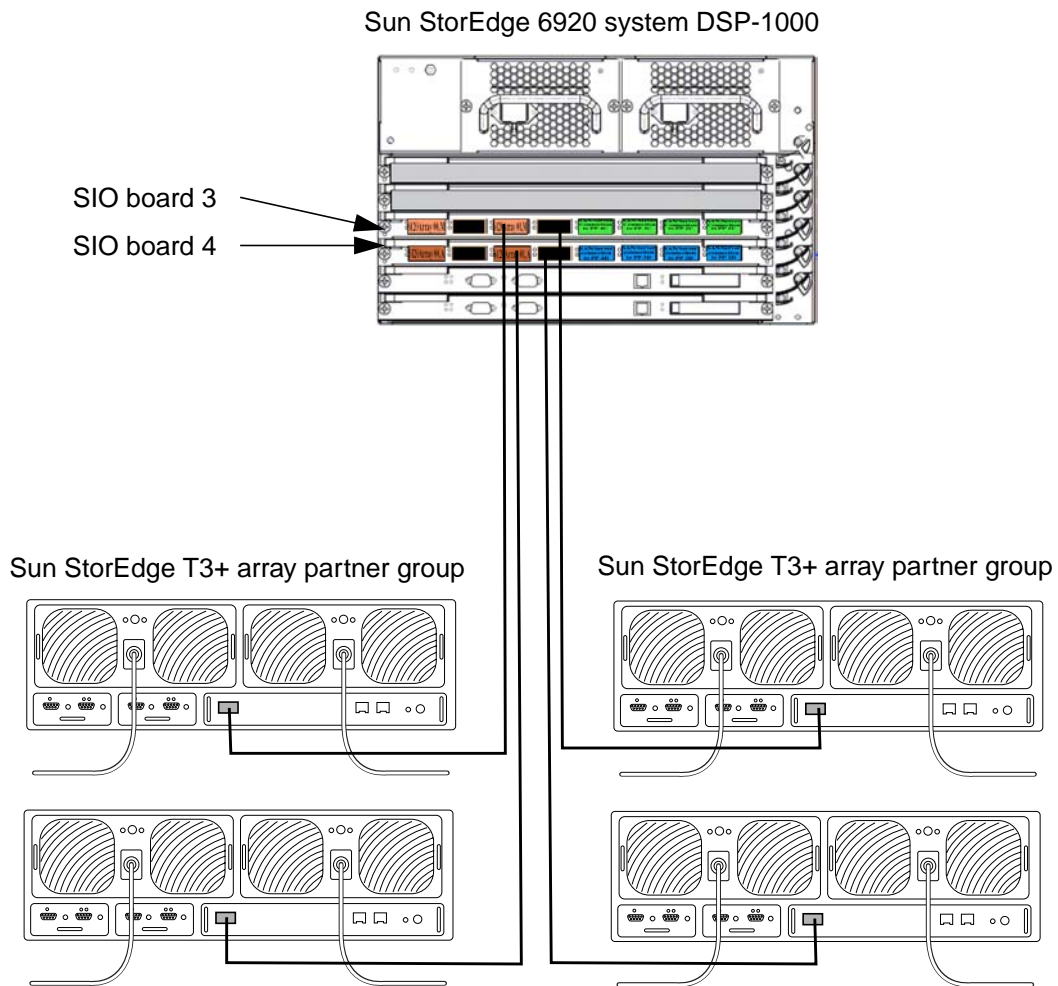

FIGURE 7 Cable Connections Between the DSP-1000 and T3+ Array Partner Groups in a Sun StorEdge 6920 Base Cabinet 0
2. Connect the LC Fibre Channel connector end of a cable from the cable set 537-1035-01 (four cables) to the Sun StorEdge T3+ arrays and the SC Fibre Channel connector end to the DSP-1000, as shown in FIGURE 7.
- a. A Sun StorEdge T3+ array to the LC end of cable labeled “DSP to Array-02 (M)”.
- c. Another Sun StorEdge T3+ array to the LC end of the cable labeled “DSP to Array-03 (M)”.
- e. The SC end of the cable labeled “DSP to Array-02 (M)” to the DSP-1000 port 6 board 3.
- g. The SC end of the cable labeled “DSP to Array-03 (M)” to the DSP-1000 port 5 board 3.